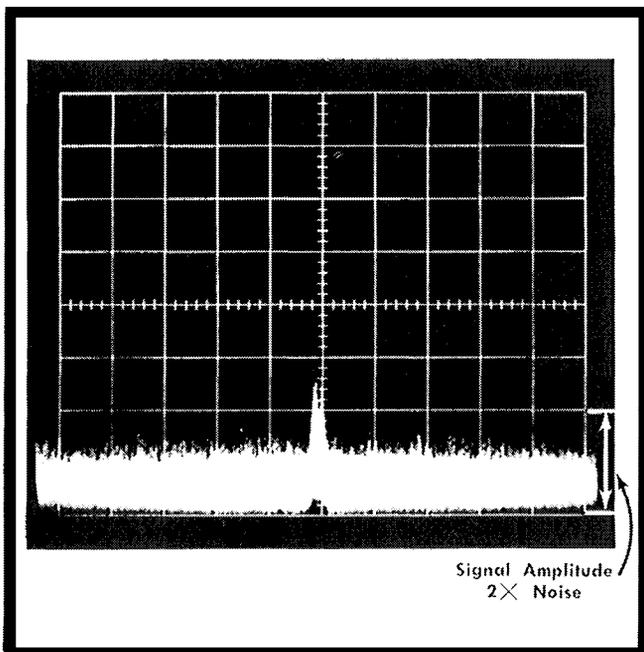

Fig. 6-44. Signal to noise ratio for measuring sensitivity.
f. Calibrate the signal generator output, then adjust the variable output attenuator control on the signal generator until the signal amplitude is two divisions (twice the noise amplitude). See Fig. 6-44.